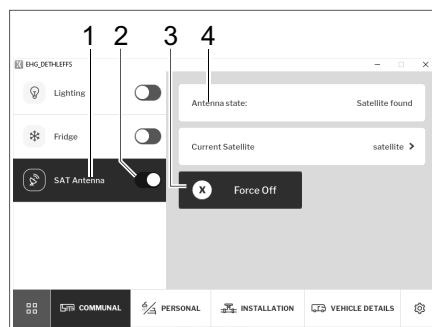

Fig. 272 Satellite unit
- Use the switch to turn the satellite unit (Fig. 272,2) on or off.
- Click on the *SAT unit* (Fig. 272,1) button. The selected satellite will be displayed (Fig. 272,4).
- Click on the *Emergency Stop* (Fig. 272,3) button, if the unit is driving against resistance.